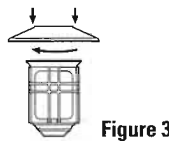

Figure 3
- Assemble cap to globe: note the slots and tabs on each of the parts and engage by twisting clockwise (Figure 3).